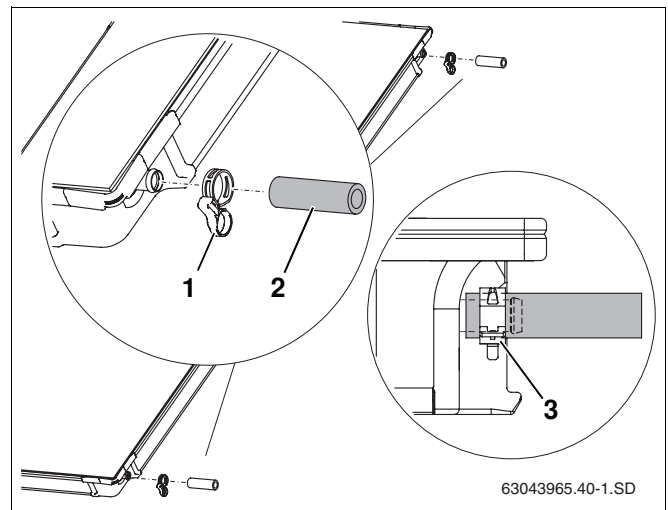

Fig. 42 Pre-assembling the connection set on the second collector
- Push 95 mm solar hoses (Fig. 42, **Item 2**) onto the right-hand connections on the second and any subsequent collector.
- Push hose clips (Fig. 42, **Item 1**) over the solar hose (the second clip will enable the other collector to be connected later).
- Once the hose clip is sitting correctly, pull the locking ring to secure the connection (Fig. 42, **Item 3**).